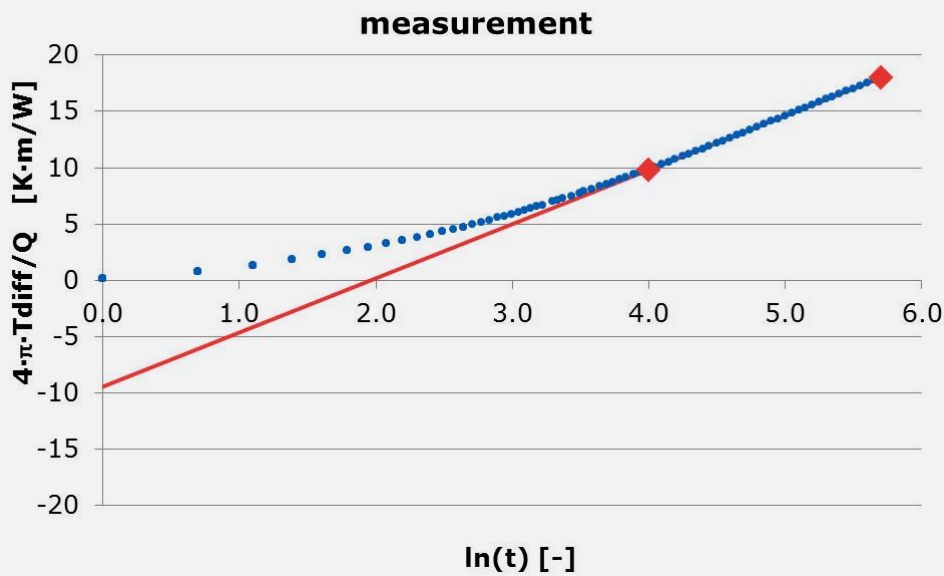

Figure 8.3.2 Measurement graph with data interval  $\ln(t_{begin})=4.0$  and  $\ln(t_{begin})=5.7$ .
4. Input the time interval to be used in cell C4 and C5. The red diamond in the measurement graph indicate the start and end of the interval visually. The linear portion of the graph should be used. For an example see figure 8.3.2.